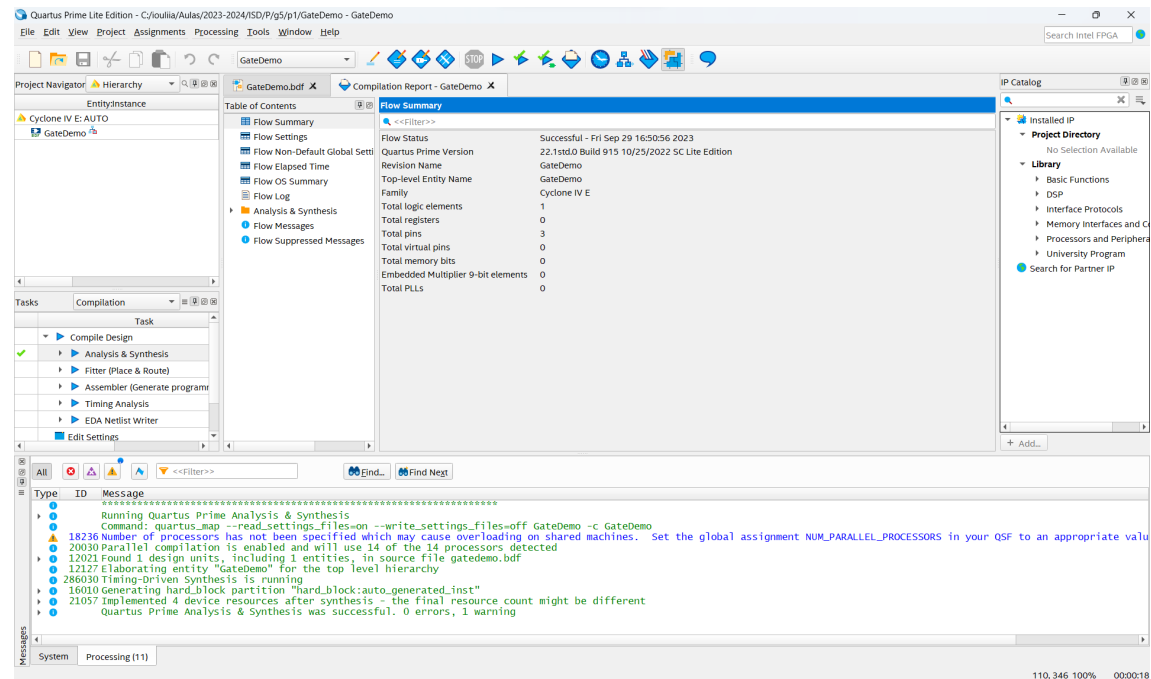

Figure 15 - “Quartus Prime” IDE after running “Analysis & Synthesis”.
8. Now the behaviour of the logic gate used will be validated by simulation. However, before performing the simulation, execute the “Analysis & Synthesis” option to analyse the structural correction of the project. After running Analysis & Synthesis the IDE should look like Figure 15.